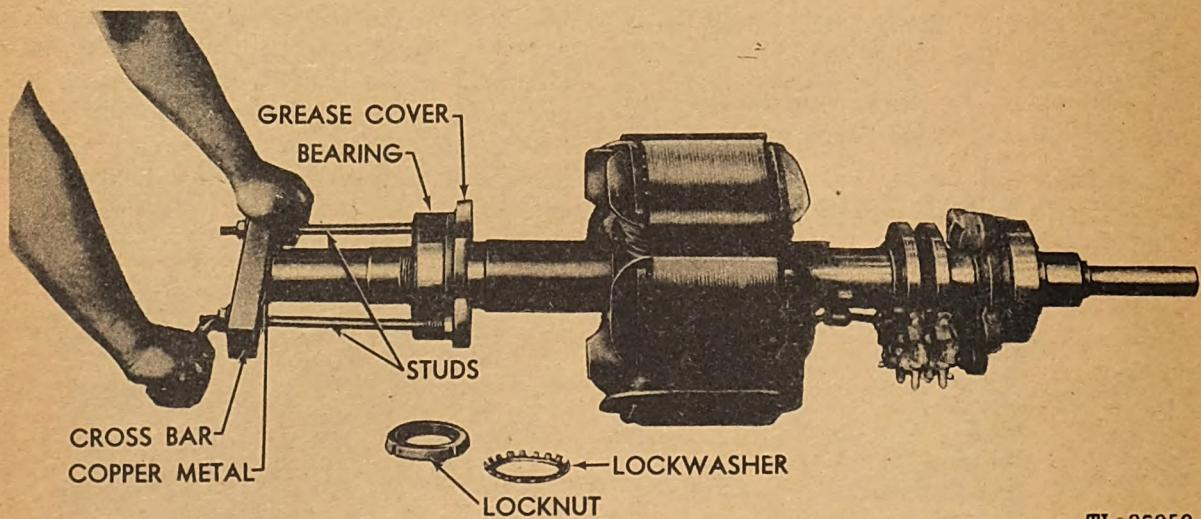
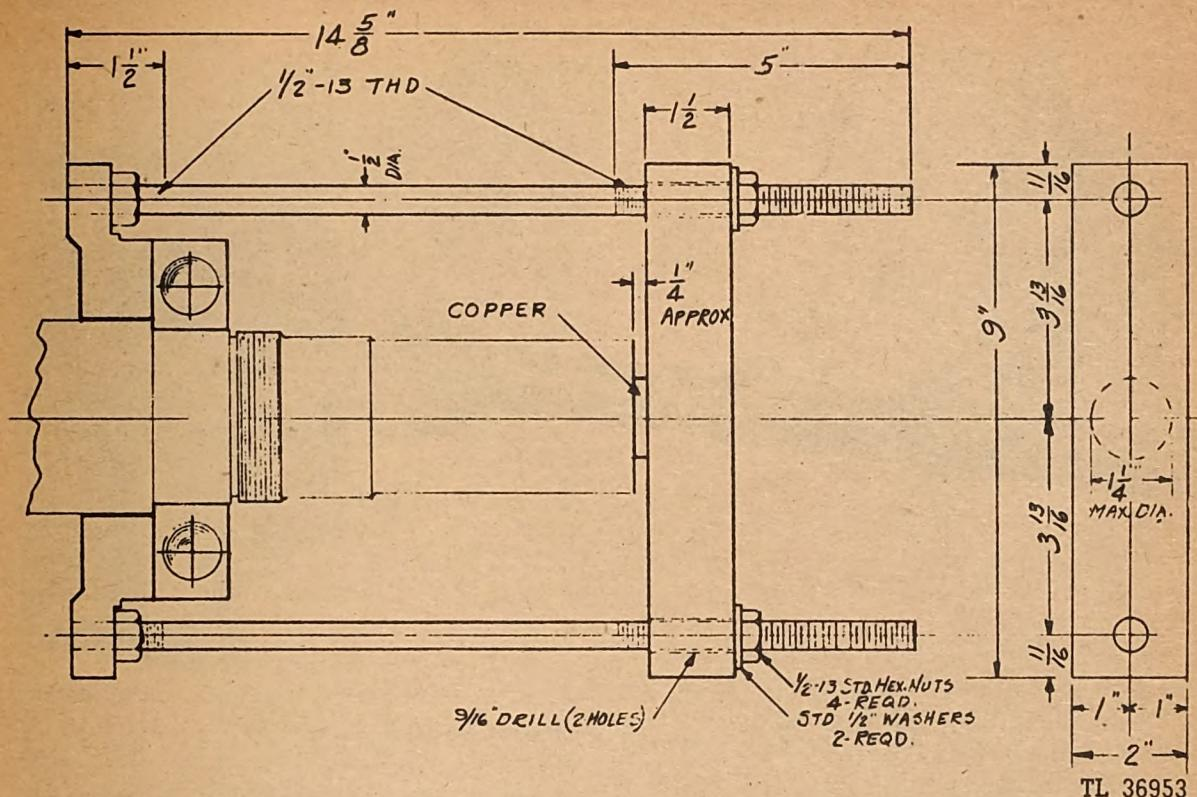

Fig. 300. Removing Bearing from Rotor Shaft
Fig. 301. Bearing Puller
a. *Removing Bearings.* (1) Use a bearing puller like the one shown in Figure 300. (The dimensions of a puller which is suitable for removing both bearings are given in Figure 301.)
(2) Release the lockwasher shown in Figure 300.
(3) Remove the bearing nut and the lockwasher.
(4) Assemble the bearing puller with a soft piece of metal, like copper, between the shaft